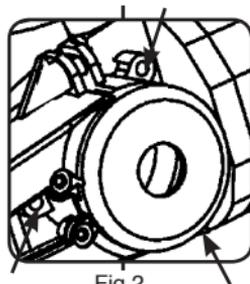

Fig.2
3. Ensure that the Mini Grinder extension arm is always fitted securely to the mounting plate. If loose, tighten the 3 screws that hold the Mini Grinder to the mounting plate on the tool body. as seen in fig.2.